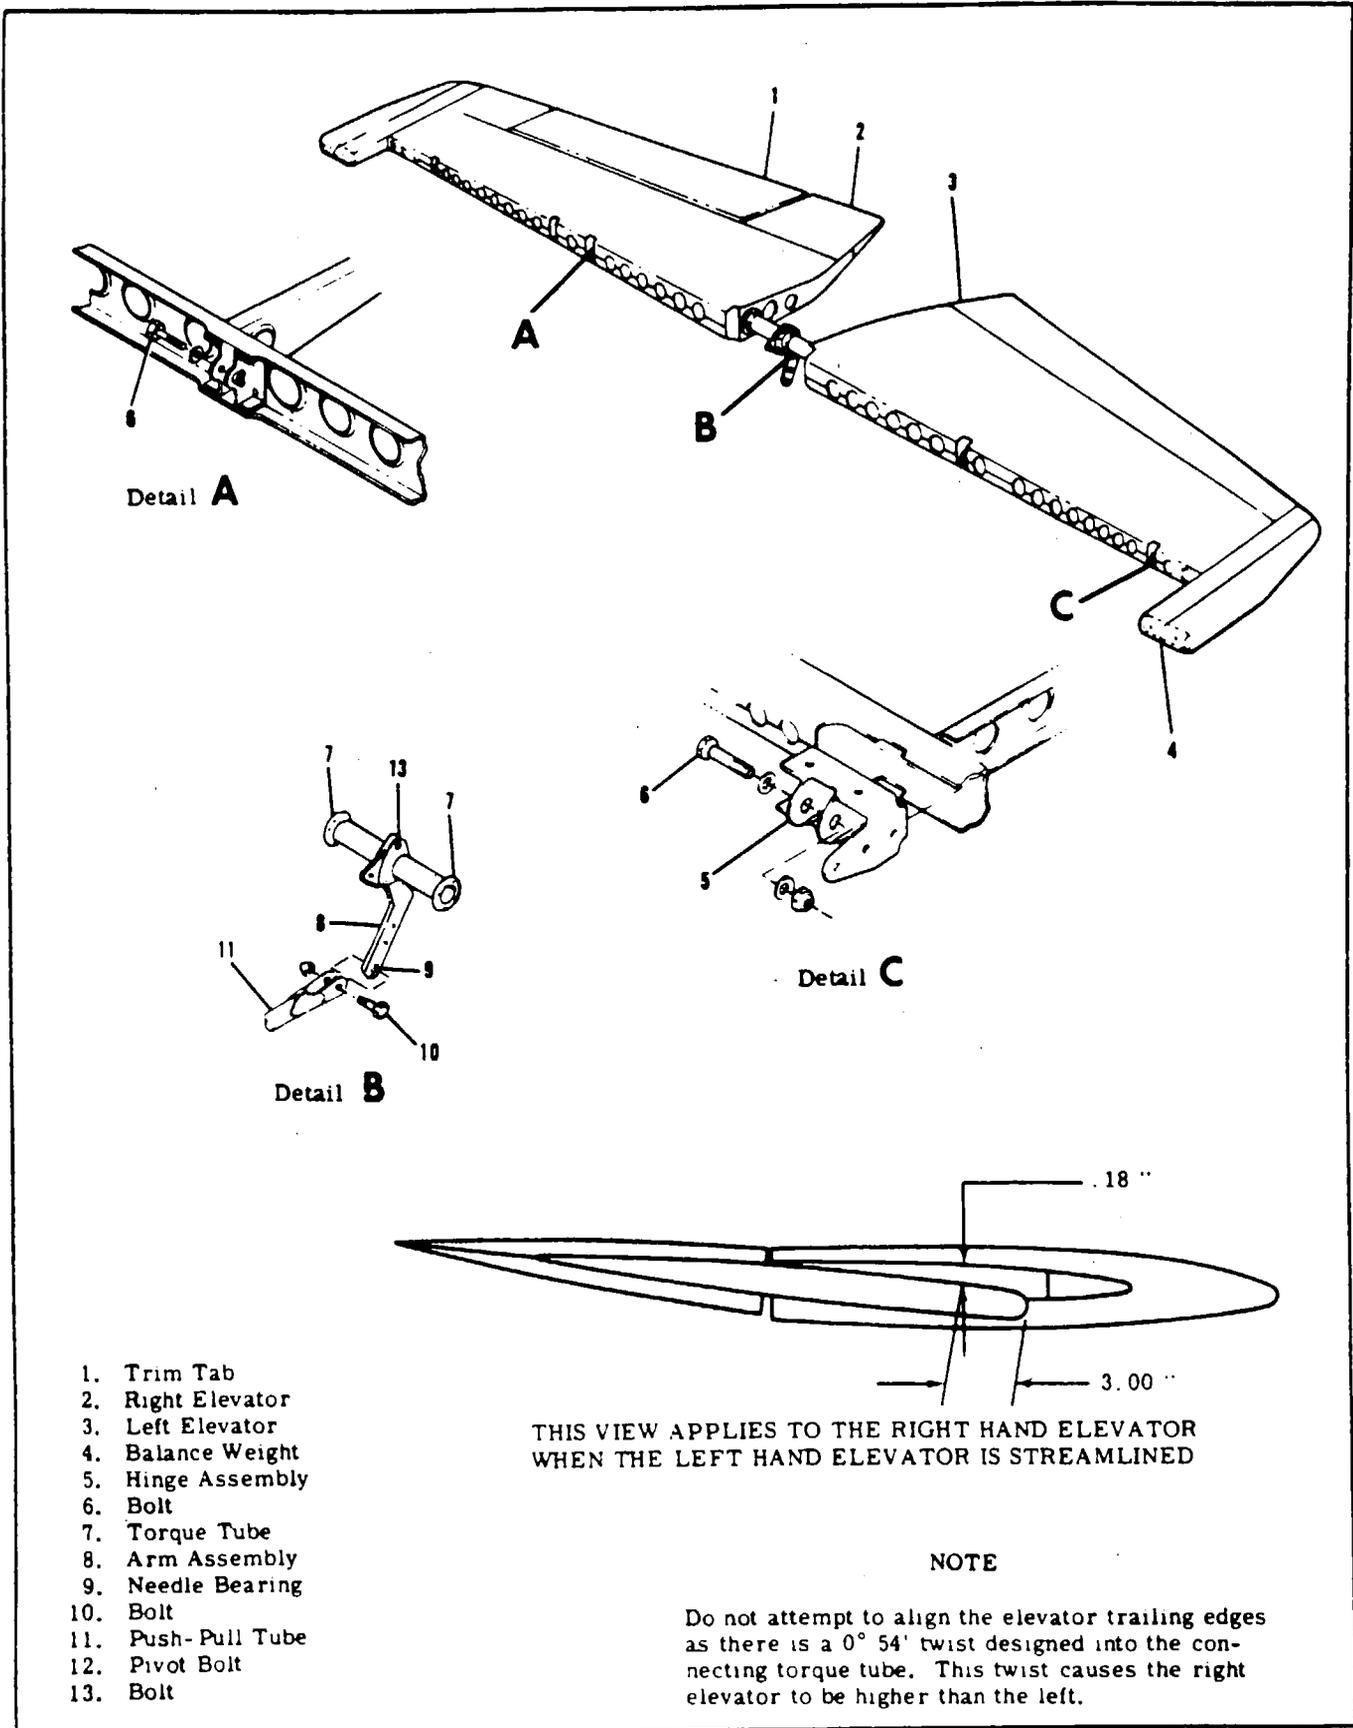

Figure 8-2. Elevator Installation
8-5. ELEVATORS. (Refer to figure 8-2.)
- c. Remove bolts (13) securing elevator torque tubes (7) to arm assembly (8). A heat gun may be required to soften epoxy adhesive on bolt (13).
- d. Remove bolts (6) from elevator hinges (5).
- h. Set right hand elevator maintaining 0.18" dimension specified in figure 8-2.
- i. When reinstalling bolts (13) install a washer under the head of each bolt and under each nut. Apply Adhesive EA-9309 from Hysol Division, Dexter Corp., or its equivalent, only to the shanks of bolts (13). Wipe off excess adhesive after installation.
8-10. ARM ASSEMBLY. (Refer to figure 8-2.)
- b. Remove bolt (10) securing push-pull tube (11) to arm assembly (8).
- d. Remove pivot bolt (12) securing arm assembly (8) and slide assembly from between elevator torque tubes.
- f. Set right hand elevator maintaining 0.18" dimension specified in figure 8-2.
- g. When reinstalling bolts (13) install a washer under the head of each bolt and under each nut. Apply Adhesive EA-9309 from Hysol Division, Dexter Corp., or its equivalent, only to the shanks of bolts (13). Wipe off excess adhesive after installation.
- b. Adjust turnbuckles (17) equally to streamline LEFT elevator with horizontal stabilizer (RIGHT elevator will be higher than the left as illustrated in figure 8-2) and to obtain 30 ± 10 lbs cable tension. Safety turnbuckles.